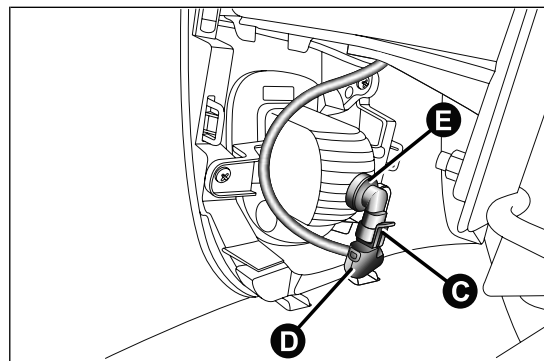

fig. 131
- ☐ adjust the catch C and disconnect the electrical connector D fig. 131;